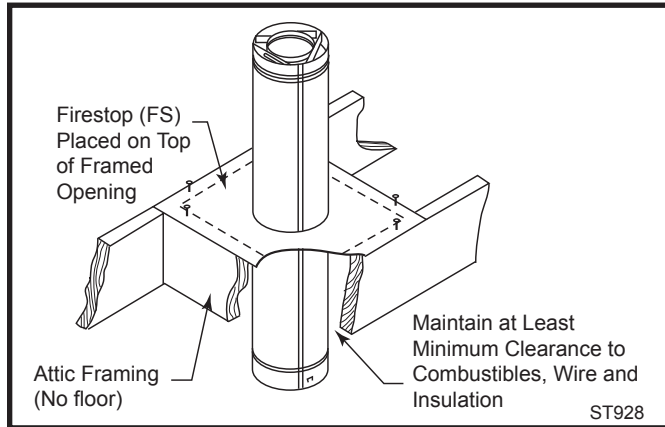

Fig. 41 Firestop spacer.
DIRECT-TEMP must be firestopped wherever it passes through floors, ceiling or walls. The only location where a firestop is not required is at the roof level. Both vertical support components with trim plates provide for firestopping. The wall thimble also acts as a firestop. At other locations, a firestop spacer (FS) should be installed. In the attic the firestop should be placed on top of the joist framing to prevent debris from falling into the joist framing. (Fig. 41)